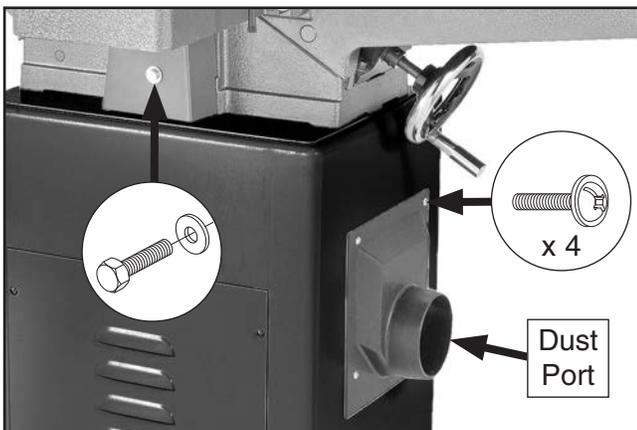

Figure 24. Belt guard and dust port installed.
20. Install belt guard with 8-32 x $\frac{3}{8}$ " hex bolt and 5mm flat washer (see **Figure 24**).
21. Install dust port, as shown in **Figure 24**, using (4) pre-installed flange screws.